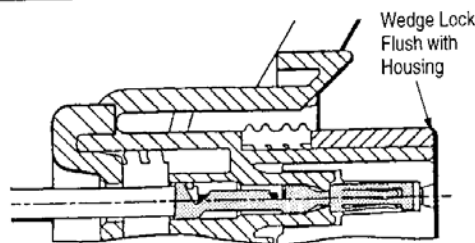

Figure 4
4. Slide the wedge lock into the housing until it is flush with the housing (see Figure 4).
It is possible during adverse shipping conditions that some wedge locks may get bumped into the closed position (see Figure 4). If so, refer to Section 5, DISASSEMBLY PROCEDURES, Steps 1 and 2.